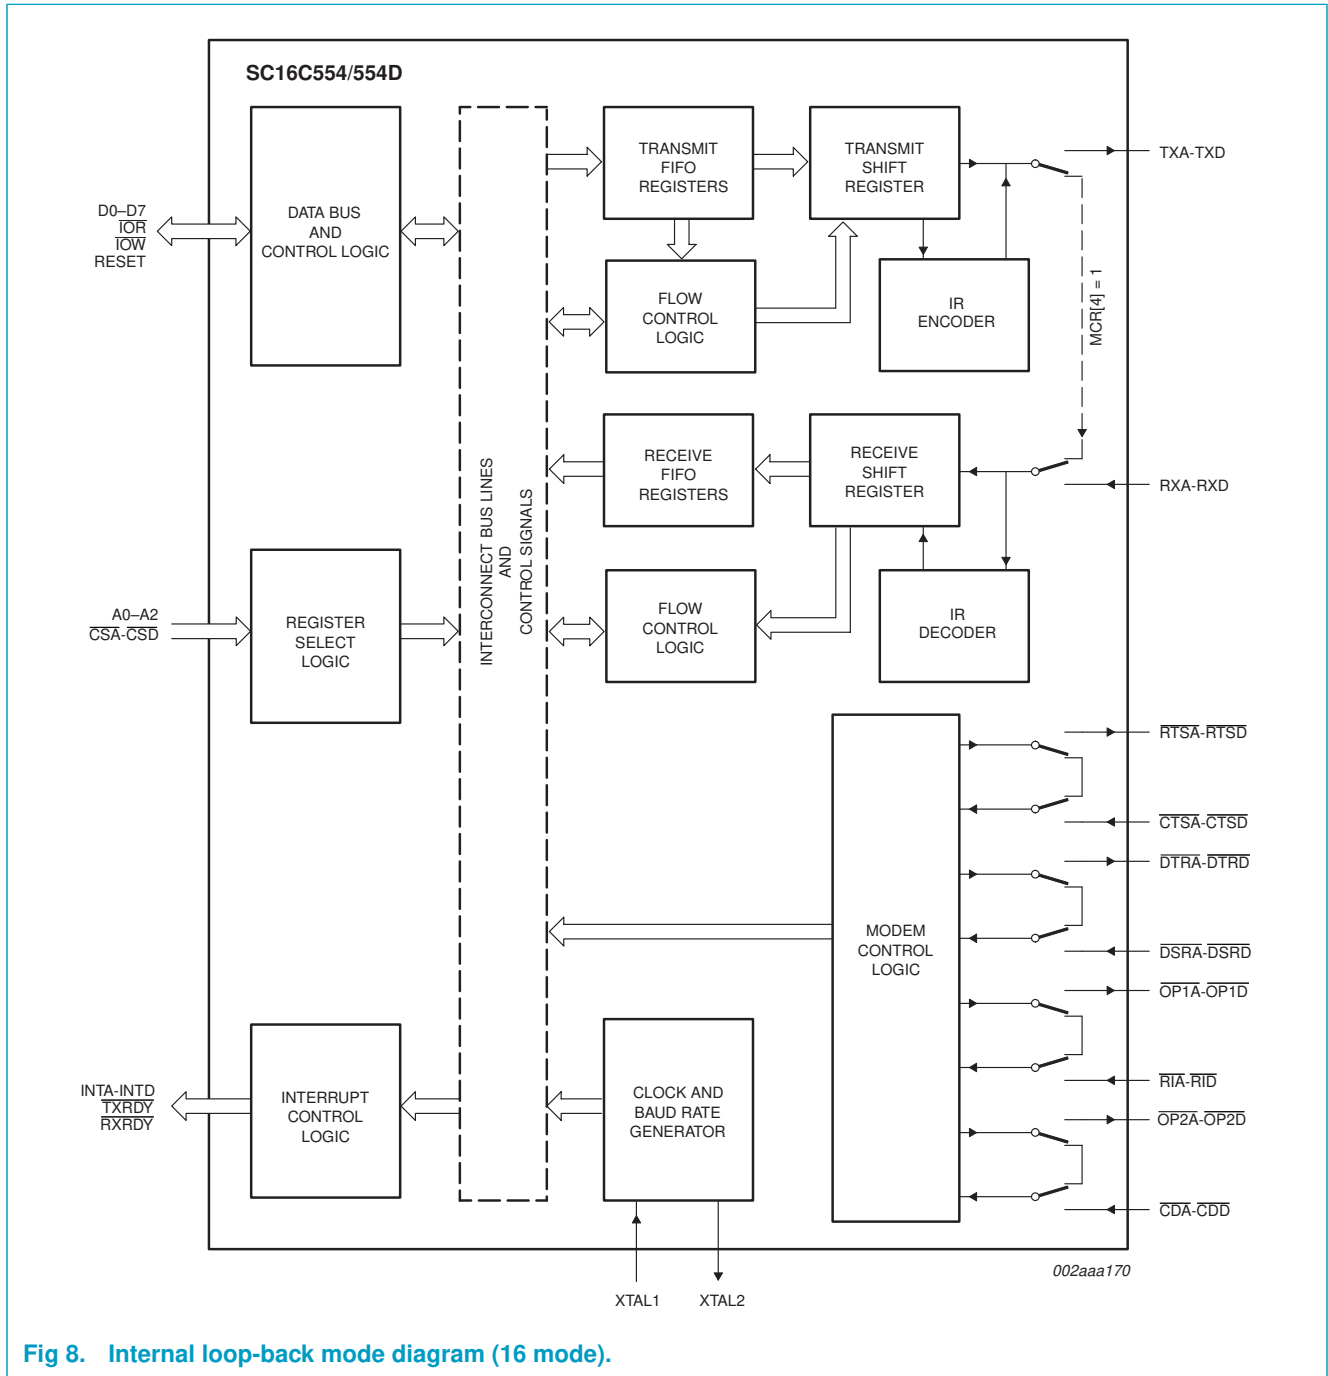

Fig 8. Internal loop-back mode diagram (16 mode).
The internal loop-back capability allows on-board diagnostics. In the loop-back mode, the normal modem interface pins are disconnected and reconfigured for loop-back internally. MCR[0-3] register bits are used for controlling loop-back diagnostic testing. In the loop-back mode,  $\overline{OPT1}$  and  $\overline{OP2}$  in the MCR register (bits 2-3) control the modem  $\overline{RI}$  and  $\overline{CD}$  inputs, respectively. MCR signals  $\overline{DTR}$  and  $\overline{RTS}$  (bits 0-1) are used to control the modem  $\overline{DSR}$  and  $\overline{CTS}$  inputs, respectively. The transmitter output (TX) and the receiver input (RX) are disconnected from their associated interface pins, and instead are connected together internally (see Figure 8). The  $\overline{CTS}$ ,  $\overline{DSR}$ ,  $\overline{CD}$ , and  $\overline{RI}$  are disconnected from their normal modem control input pins, and instead are connected internally to  $\overline{RTS}$ ,  $\overline{DTR}$ ,  $\overline{OP2}$  and  $\overline{OPT1}$ . Loop-back test data is entered into the transmit holding register via the user data bus interface, D0-D7. The transmit UART serializes the data and passes the serial data to the receive UART via the internal loop-back connection. The receive UART converts the serial data back into parallel data that is then made available at the user data interface D0-D7. The user optionally compares the received data to the initial transmitted data for verifying error-free operation of the UART TX/RX circuits.